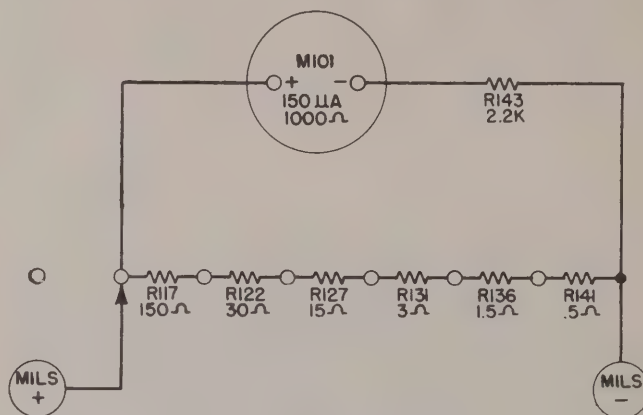

Figure 2-7. Milliammeter Circuit
e. MILLIAMMETER CIRCUIT. (See Fig. 2-7)
The milliammeter, as shown in Figure 2-7, is of the conventional type and will measure up to 1000 milliamperes. The circuit is so designed that as the higher ranges are used the effective internal resistance is decreased. To avoid possible damage to the meter, always start with the highest range.